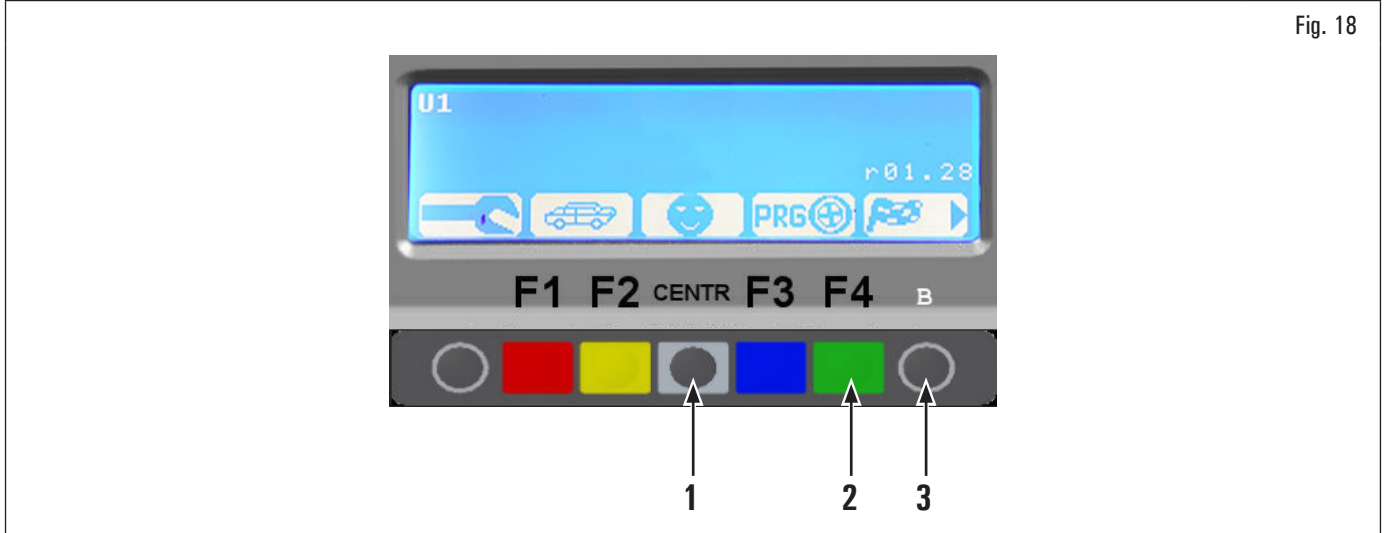

Fig. 18
From the first page of the program, by keeping the push button (B) (Fig. 18 ref. 3) pressed, push push button (F4) (Fig. 18 ref. 2) repeatedly in order to raise brightness/contrast or push push button (CENTR) (Fig. 18 ref. 1) repeatedly in order to lower brightness/contrast.